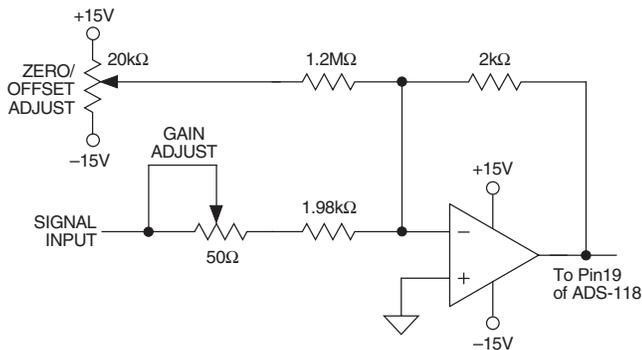

Figure 2a. Optional ADS-118 External Gain and Offset Adjust Circuits
- the adjustment circuitry shown in Figures 2a and 2b. For operation without adjustment, tie pin 17 to analog ground. When using this circuitry, or any similar offset and gain-calibration hardware, make adjustments following warmup. To avoid interaction, always adjust offset before gain.
Any offset and/or gain calibration procedures should not be implemented until devices are fully warmed up. To avoid interaction, offset must be adjusted before gain. The ranges of adjustment for the circuits in Figures 2a and 2b are guaranteed to compensate for the ADS-118's initial accuracy errors and may not be able to compensate for additional system errors.